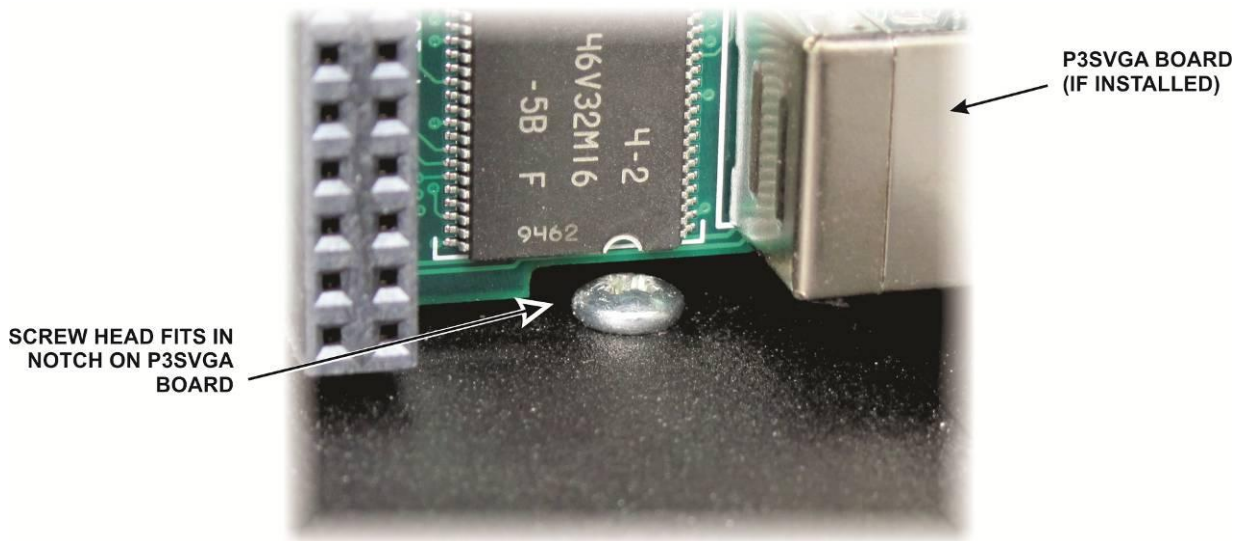

Figure 20. Clearance Notch in P3SVGA board.
□ Mount the rear panel assembly to the end of the bottom cover that has the two round feet using a 3/16" (4.8 mm) pan head screw into each 2D fastener. If the optional P3SVGA board is installed, note that a notch in the bottom of the board clears the screw for the rear foot (see Figure 20).